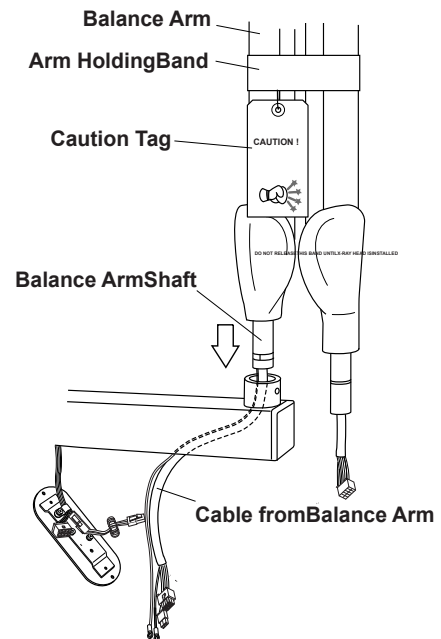

Fig.3-6 Balance Arm Installation
3. Route the cable with 2P and 8P connectors from the balance arm shaft through the horizontal arm. Insert the balance arm into the horizontal arm. The cable should be fed through the bottom cover opening on the bottom of the horizontal arm. (**Fig.3-6**)